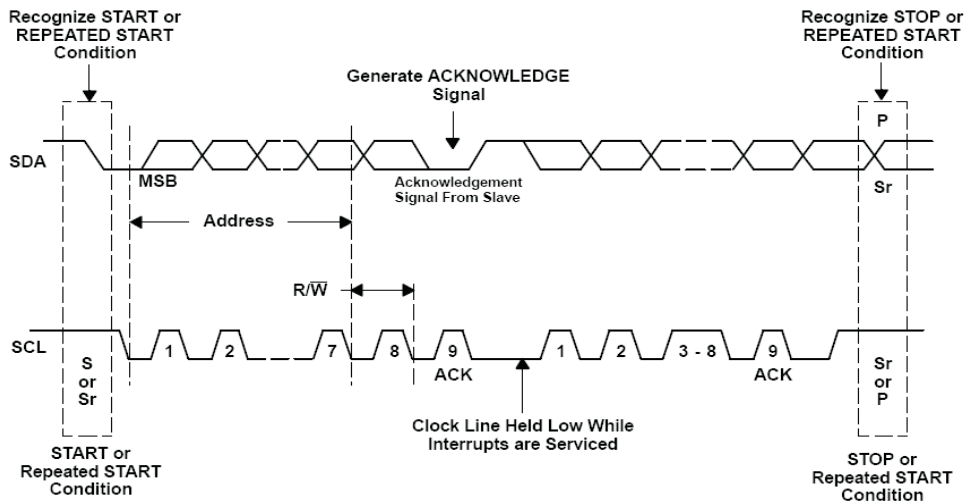

Figure 35. Bus Protocol
The master generates further SCL cycles to either transmit data to the slave (R/(W) bit = 0) or receive data from the slave (R/(W) bit = 1). In either case, the receiver needs to acknowledge the data sent by the transmitter. So an acknowledge signal can either be generated by the master or by the slave, depending on which one is the receiver. 9-bit valid data sequences consisting of 8-bit data and 1-bit acknowledge can continue as long as necessary. To terminate the data transfer, the master generates STOP condition by pulling the SDA line from low to high while the SCL line is high (see Figure 35). This releases the bus and stops the communication link with the addressed slave. All I2C compatible devices must recognize the stop condition. Upon the receipt of a stop condition, all devices know that the bus is released, and they wait for a start condition followed by a matching address.